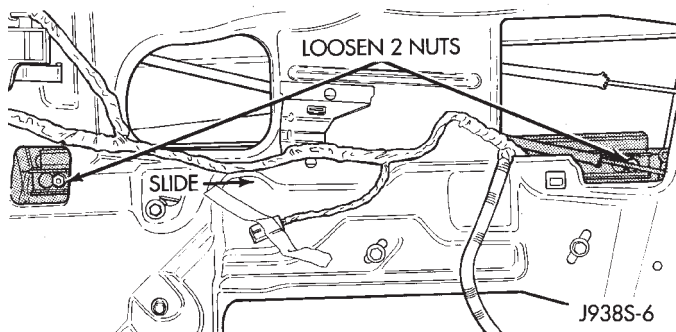

Fig. 6 Front Door Window Track
- (1) Remove door trim panel and waterdam. If necessary, refer to removal procedure.
- (2) Position window glass to access window track nuts (Fig. 6).
- (3) Loosen 2 window track nuts and slide track off of the window (Fig. 6).
- (2) Remove beltline molding and weatherstrip seals.
- (3) Remove window track retaining nuts (Fig. 6). If necessary, refer to removal procedure.
- (4) Lift window glass upward and out of door.